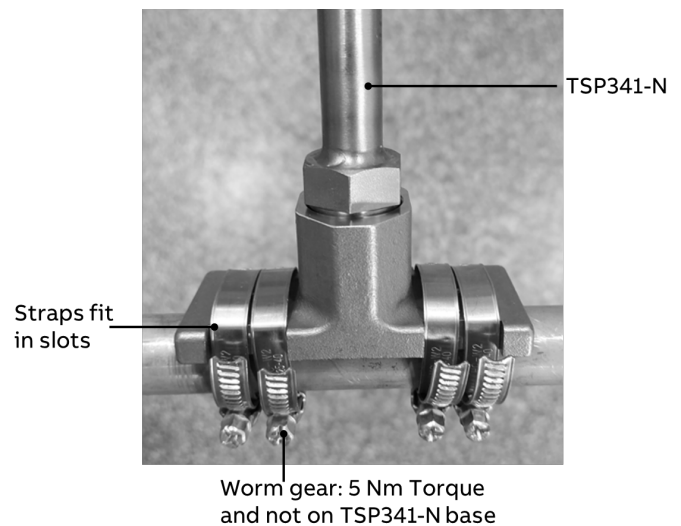

Figure 1: Installation of clamps and positioning of worm gear on DN25 example
3. Place and secure the four worm gear pipe clamps as shown in **Figure 1**. The worm gears should be located diametrically opposite to the TSP341-N mounting base. The torque required on the bands is **5 Nm**.